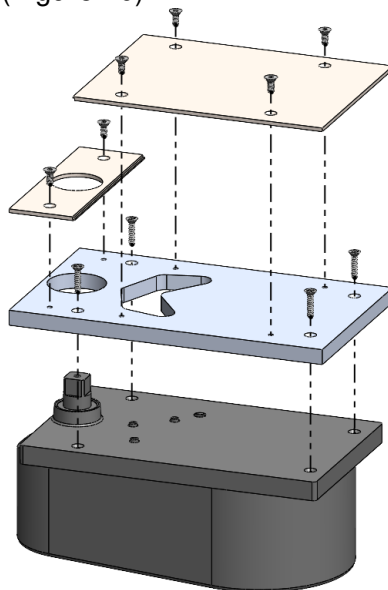

Figure 10:
- Install cover plates to closer (Figure 10).